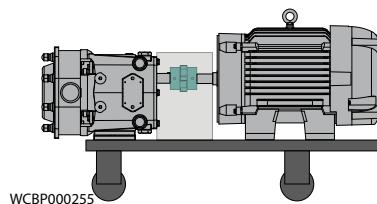
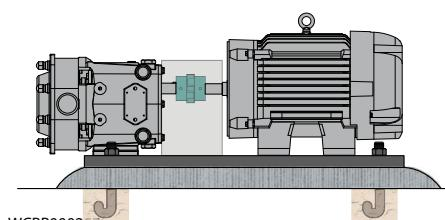

Figure 3 - Portable Base
Figure 6 - Permanent Installation on Foundation
In a typical installation configuration, the pump and drive unit are mounted on a common base plate. The unit can be installed in any of the arrangements shown in Figure 3 through Figure 6.
**NOTE:** When installing a unit as shown in Figure 6, level the unit before installing the bolts.
The shaded area in Figure 3 through Figure 6 indicates the guard location.